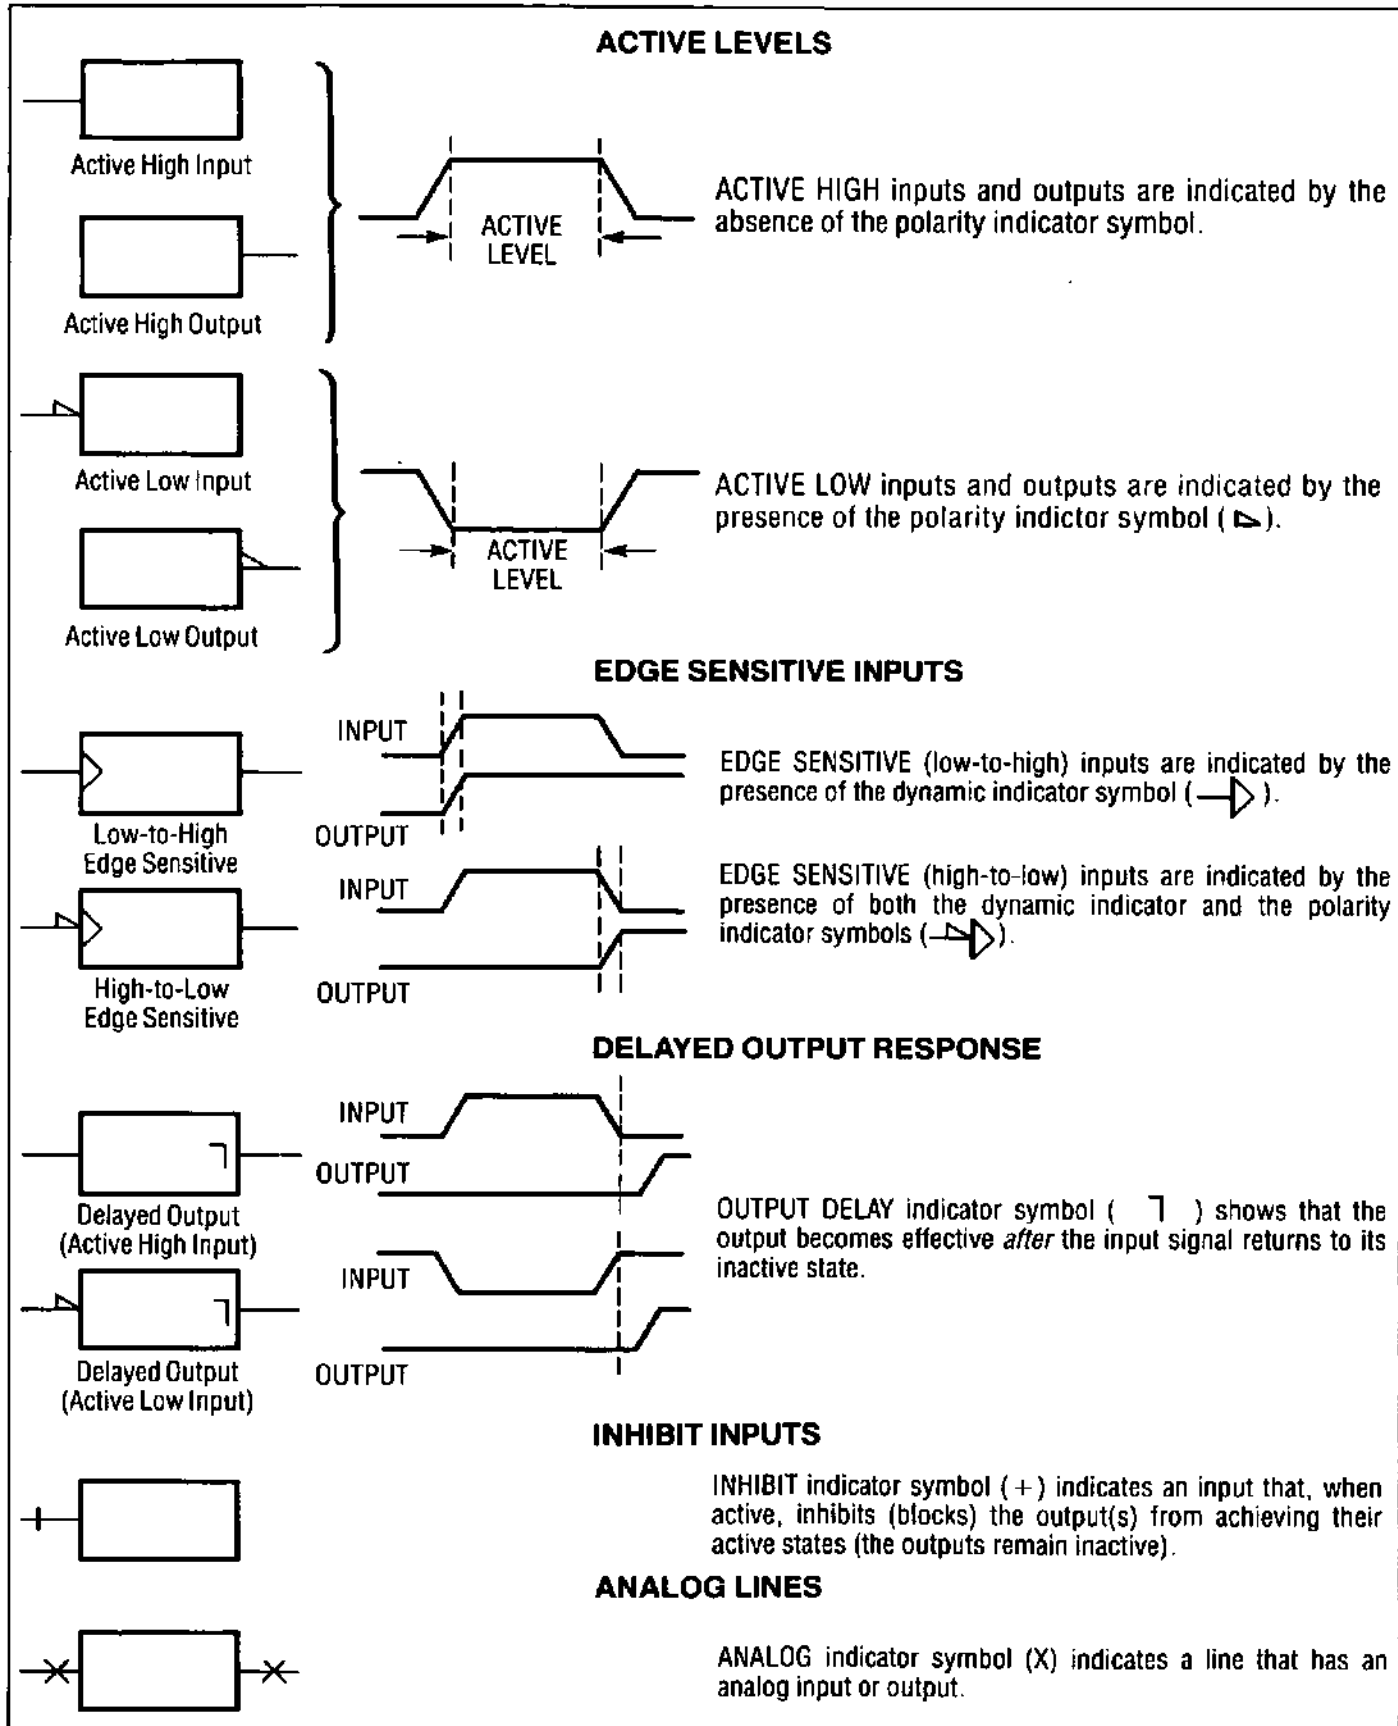

Figure 8-6. Indicator Symbols
**Indicator Symbols.** Indicator symbols identify the active state of a device's input or output, as shown in Figure 8-6.